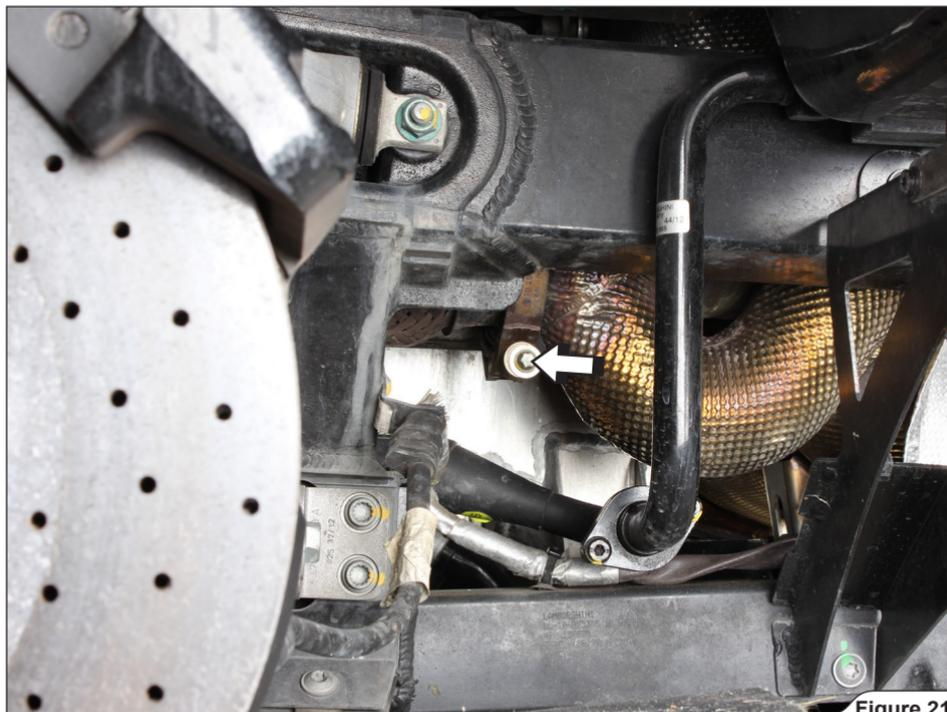

Figure 21
13. Unscrew the marked clamps on both sides and remove them off the joints (**Figure 21**).